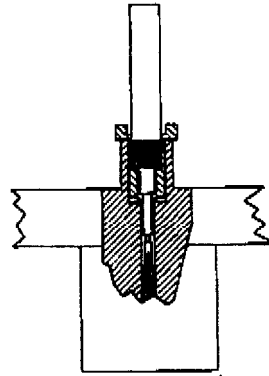

Figure 4
- 4) Check that the dielectric (ST 427664-981) is inserted into the crimp front (PLIERS CRIMPING 19A). Push the assembly fully in against the contact plunger as figure 4.